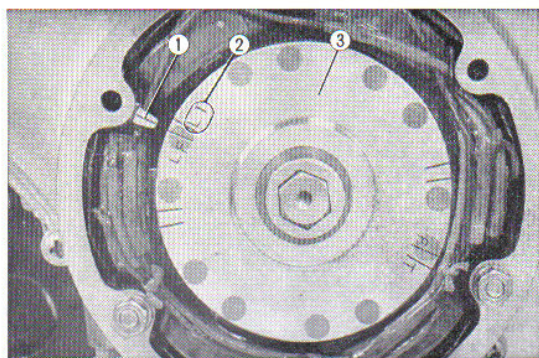

Fig. 6.3 Matching mark LT
4. Align the "LT" mark on the dynamo rotor with the index mark on the stator. If the timing marks of both the inlet and exhaust camshafts are aligned to the index mark on the bearing holder, this position is the top-dead-center of the intake stroke, and therefore, the rotor should be turned one complete revolution to bring it to the top-dead-center of the compression stroke, in other words, the purpose is to place the left hand piston at the top-dead-center of the compression stroke. (Fig. 6.3)